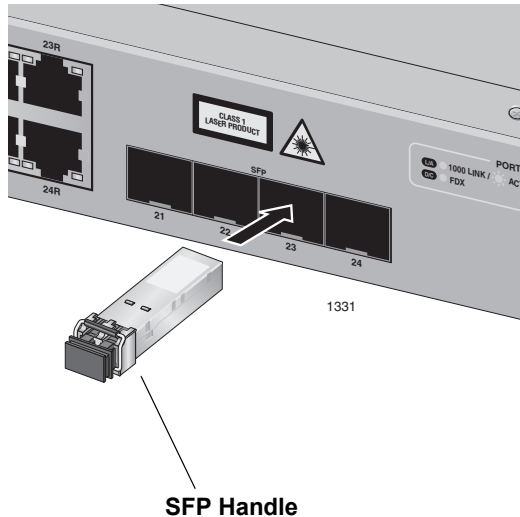

Figure 24. Positioning Handles on the x600-24Ts and x600-24Ts/XP Switches
5. For the x600-24Ts and x600-24Ts/XP switches, verify that the handle on the SFP transceiver is in the upright position, as shown in Figure 24, to prevent inadvertently removing the transceiver.